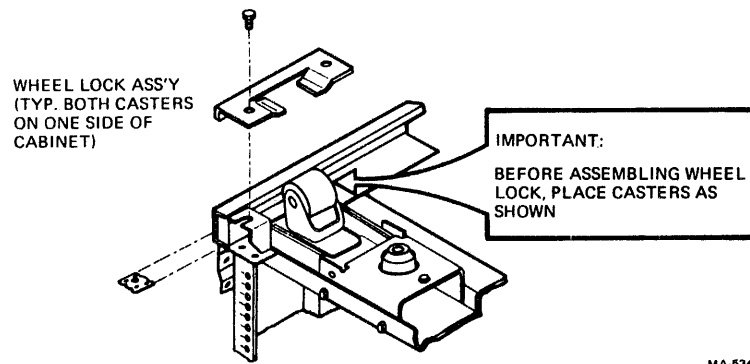

Figure 2-8 Caster Lock Assembly
2.4.3.2 Caster Locks – Caster locks (PN 7417593) are supplied with each cabinet frame (Figure 2-8). They facilitate cabinet movement by preventing two of the four cabinet casters from swiveling. They also help provide cabinet stability by restricting the direction of cabinet movement. The caster locks are mounted with hardware; they may be removed if moving the cabinet during installation becomes absolutely necessary. In any case, the locks are to be removed when the cabinet has been installed at its final destination. The locks are to be stored with the cabinet; they can be used in the future if the cabinet has to be moved.